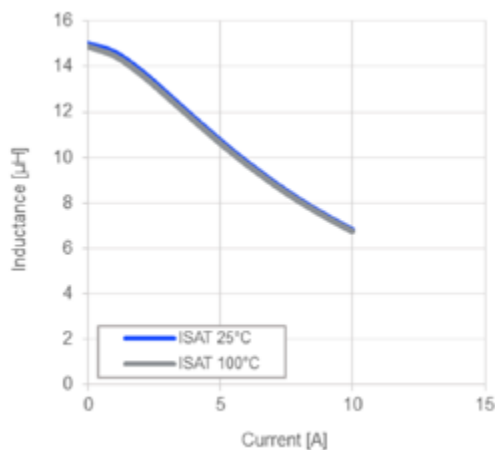

Figure 6: Saturation Current (I_{SAT}) as a Function of the Inductor Current (I_L)
Due to the physical properties of the ferromagnetic material used in modern inductors, a higher number of turns and inductance (L) results in a lower the saturation current (I_{SAT}). Figure 6 shows a typical I_{SAT} graph. From this graph, we can expect an effective inductance of 13 μ H at a 2A load current.